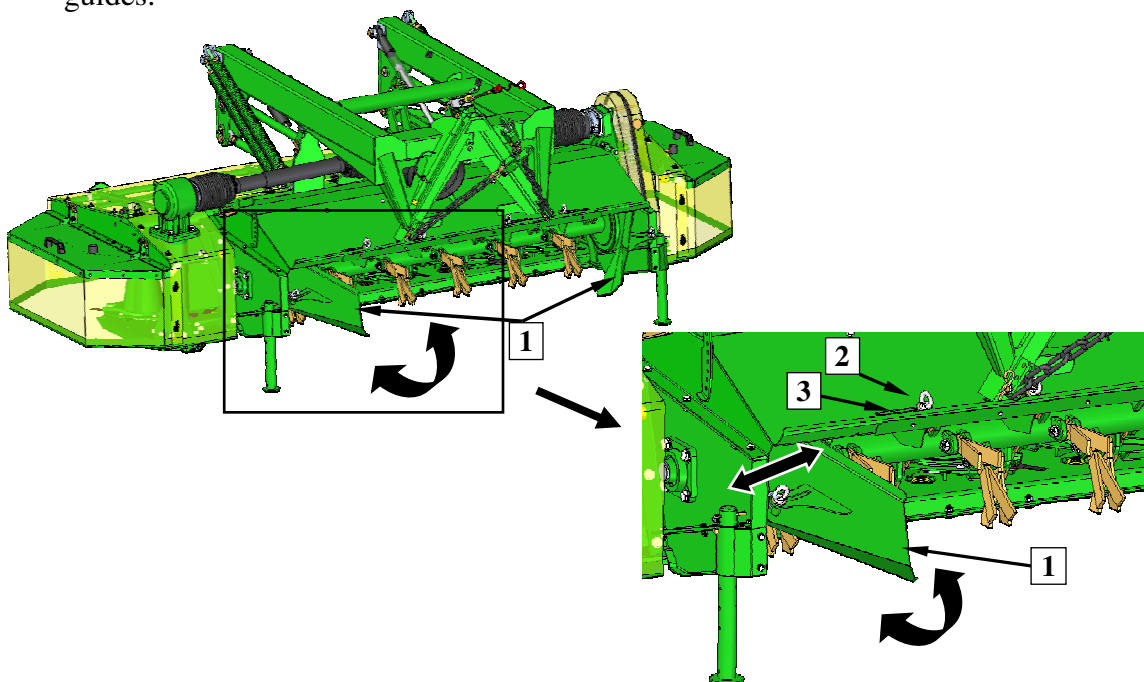

Fig. 21. Adjustment of swath guides: 1 - swath guide, 2 - adjustment screw, 3 - swath wheel
In order to set swath width, adjustment of swath guides (1) should be performed (**Fig. 21**) (for: KDF S (SL)):
- ❑ loosen eye screw (2) of the swath guide,
- ❑ set the swath guide (1) as needed,
- ❑ tighten screw (2),
- ❑ even spreading of swath might be adjusted with wheels (3) the same as it is preformed with guides.